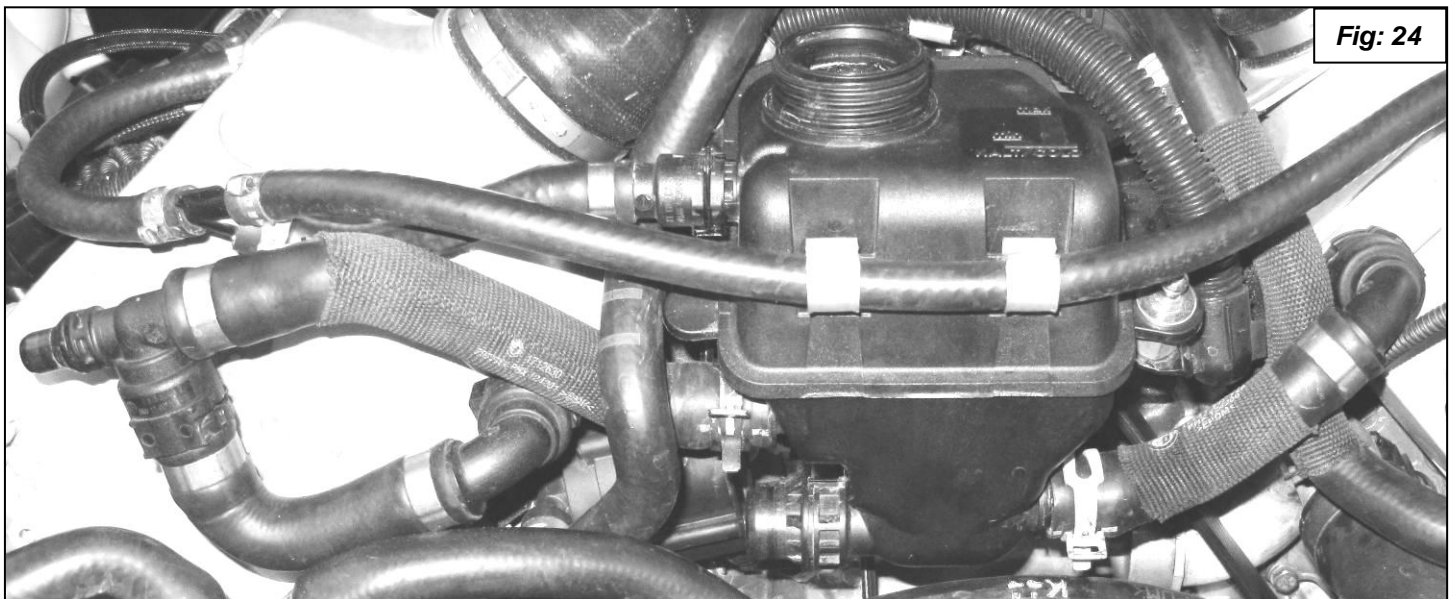

Fig: 22
19. Install the coolant hoses using the supplied new hoses where shown along with the stock hoses. See figures 22, 23, 24 and 25.